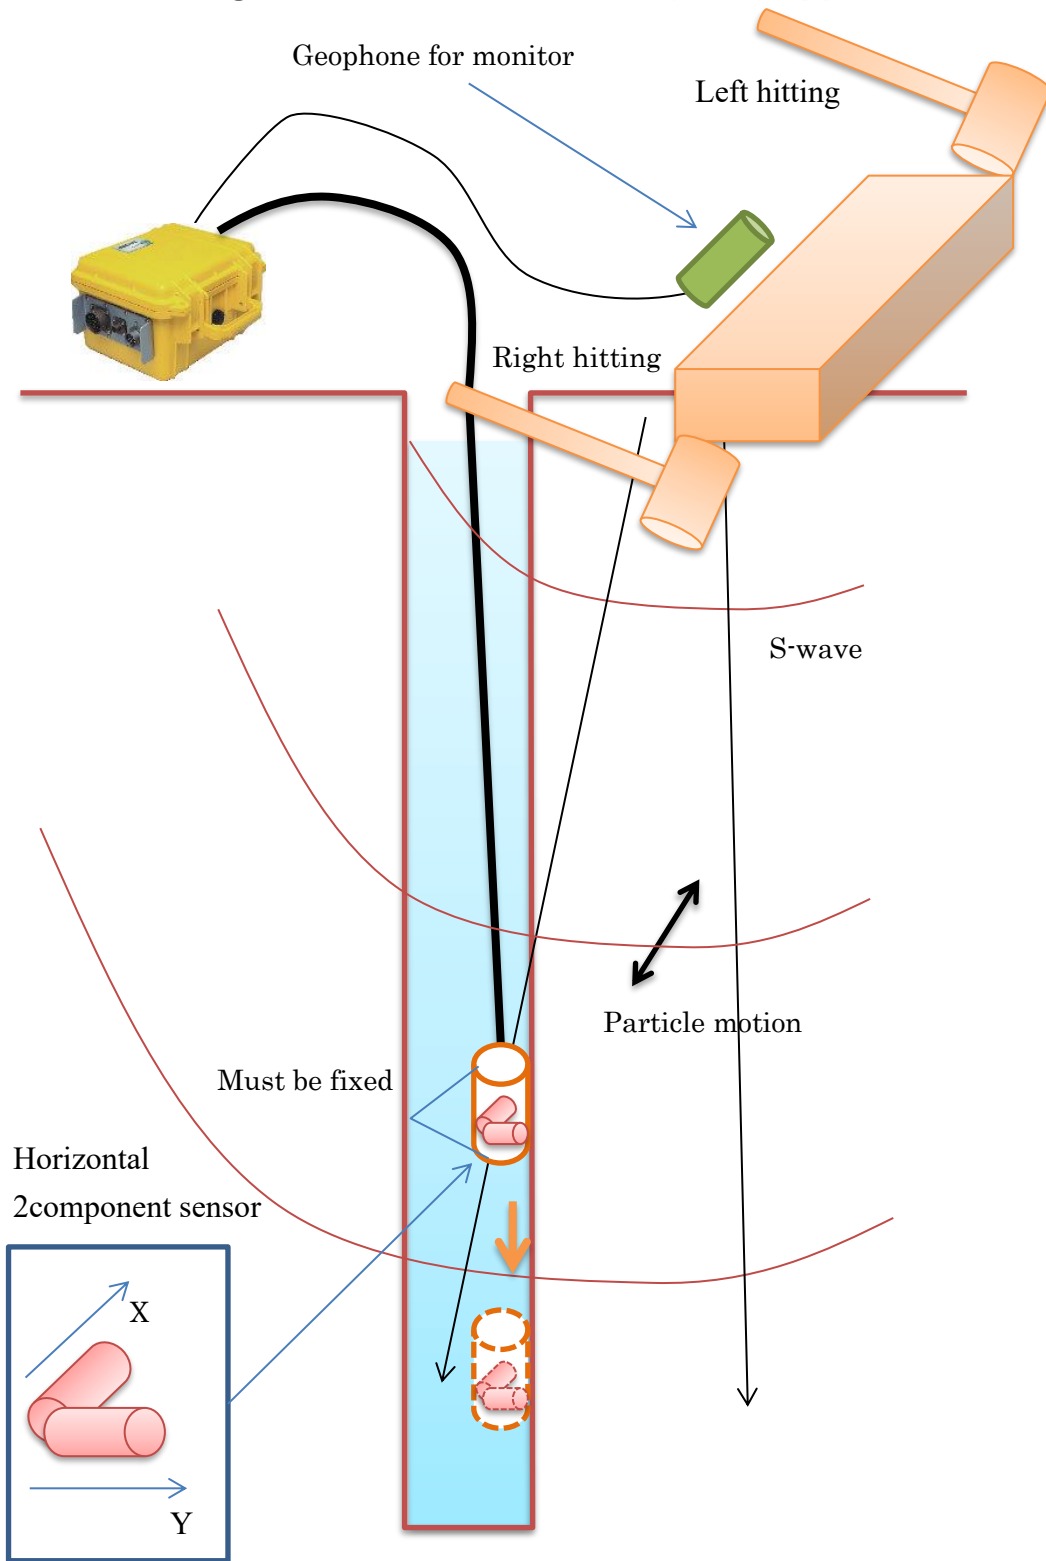

Figure 9. Data acquisition of S-wave using a single channel receiver.
C) S-wave data using a single channel receiver (Figure 9).